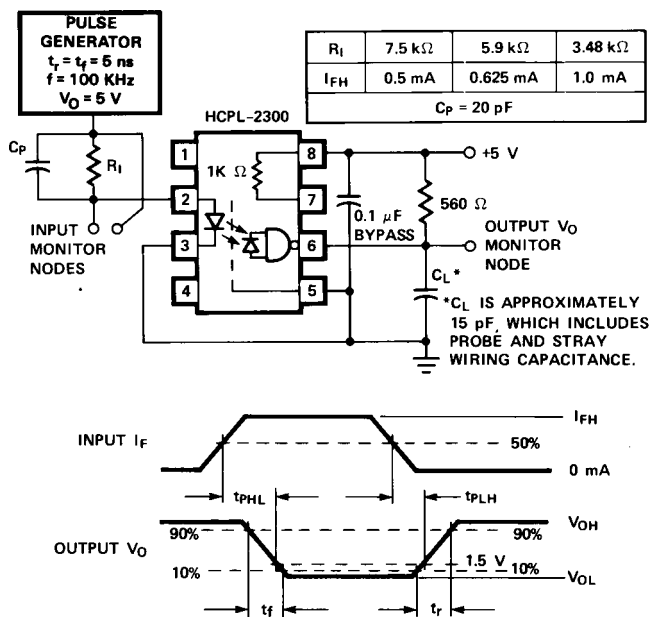

Figure 8. Test Circuit for  $t_{pHL}$ ,  $t_{pLH}$ ,  $t_r$ , and  $t_f$ .
8.  $C_\text{P}$  is the peaking capacitance. Refer to test circuit in Figure 8.